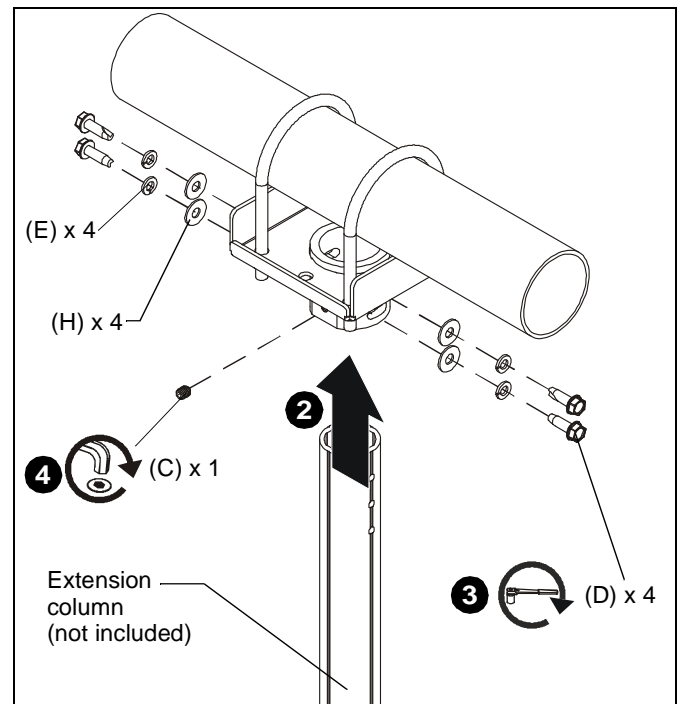

Figure 3
3. Secure extension column to CPA365 using four 5/16-18 x 1" hex head self-tapping screws (D), four 5/16" split lock washers (E) and four 5/16" flat washers (H) through holes in extension column. (See Figure 3)
4. Install one 5/16" x 1/2" set screw (C) into threaded hole, tightening firmly against column. (See Figure 3)